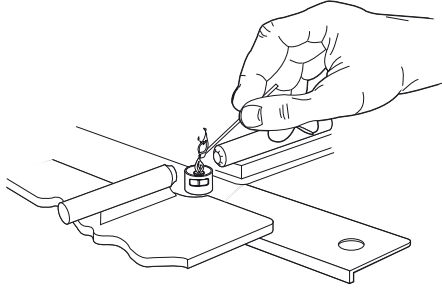

Figure 13
4. Light two top pilots with match as shown in figure 13.